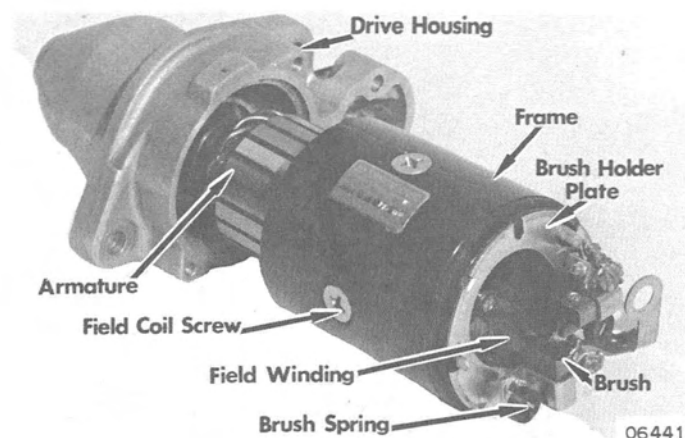

Figure 4. Frame Assembly Removed
6. Remove frame, field coils and brush holder plate as an assembly. (Figure 4)